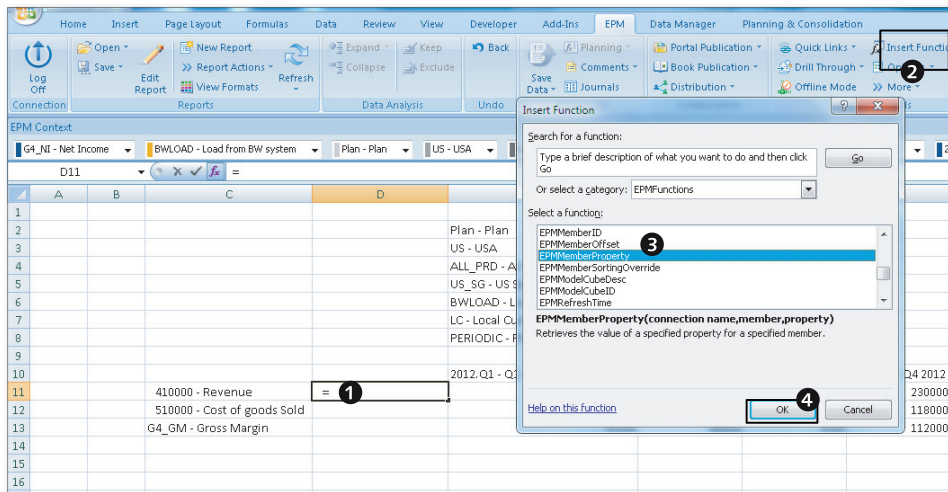

Figure 5.16 Define Local Members—Part A
2. Insert a new column inside the report to display the property value. Select the cell on the column inserted that is next to the first dimension member in the row to define the local member (Figure 5.16, ❶). Click on **INSERT FUNCTION** in
the EPM tab (Figure 5.16, ②). This will open a new dialog box to select an EPM function. Using the dropdown menu, select EPM FUNCTIONS from the options displayed in the SELECT A CATEGORY list. This will display a list of all the EPM functions. Select the EPMMEMBERPROPERTY function, and click on OK (Figure 5.16, ③ and ④).